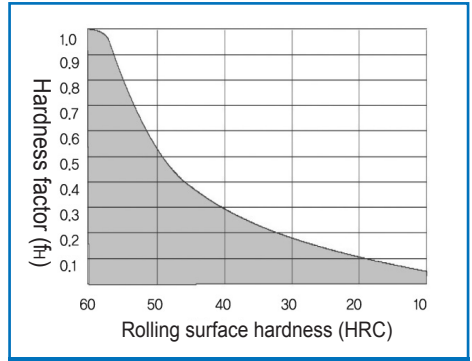

Figure 2. Hardness factor (f_H)
WON's angular Ball Spline has the accuracy of KS B 1422(JIS B 1193). It is divided into 3 grades-normal (no symbol), high(H) and Precision(P), and the details is shown in the Table 1~3. The symbol of the grades is marked by the arrangement of the part-numbers. The figures of the tables also include the precision of the case that the shaft-ends are processed(the portions both of supporting and parts mounting in Fig.2) can help even special requirements/inquires for other precision. The measuring method of accuracy is shown in Table 6.